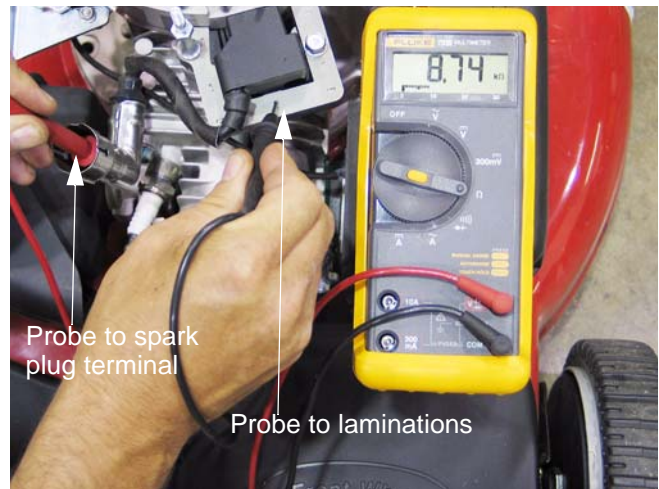

Figure 7.12
- 4g. Resistance in the secondary windings of the ignition module, measured between the spark plug terminal and the laminations, was observed to be in the 8K-9K Ω range. See Figure 7.12.